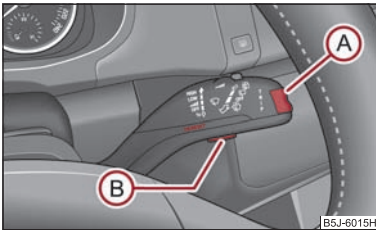

Fig. 20 Multi-functional indicator:
- Press button **(B)** ⇒ fig. 20. **Speed warning 50 km/h** is displayed in the information display*. You can increase or reduce this value with the aid of the button **(A)**.
If you now exceed the set speed limit, **Speed 50 km/h exceeded** will be shown on the display. This text is shown until you lower the speed below the set limit or you switch off the displayed text with the button **(B)** ⇒ fig. 20.